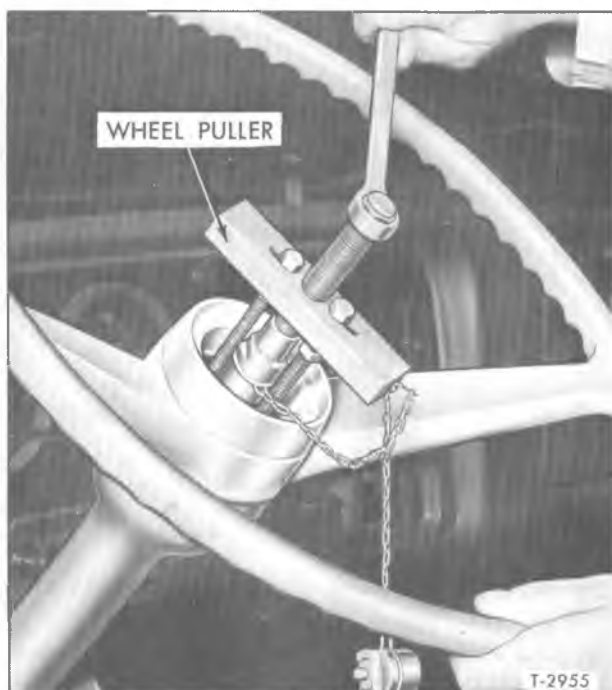

Figure 13—Steering Wheel Removal (Typical)
5. Using Puller (J-2927-01), remove steering wheel (fig. 13). It may be necessary to tap on bolt head of tool with a hammer as it is turned down to loosen a tight steering wheel.